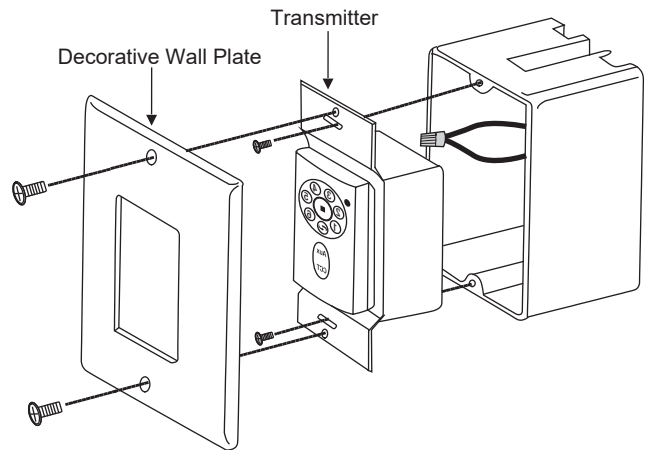

Figure 17
- b. Carefully tuck the wire connections inside the outlet box. Use the screws provided to secure the wall transmitter and wall plate to the outlet box. (Fig. 17)